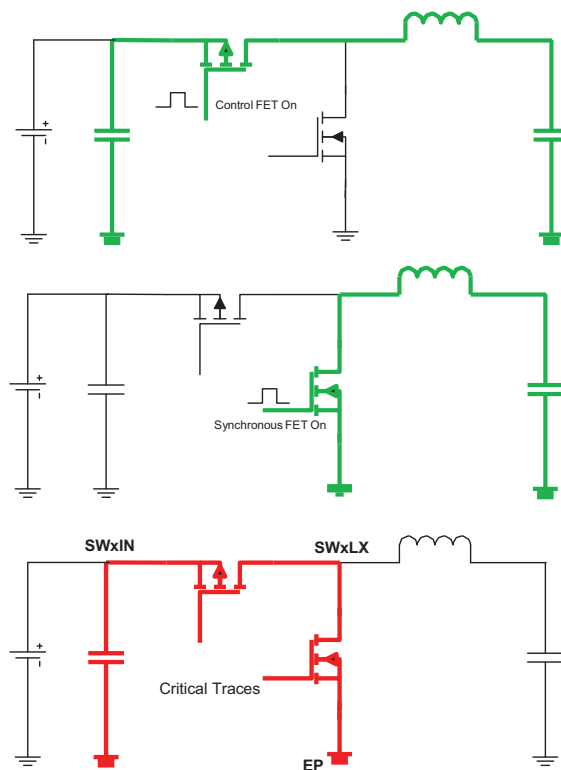
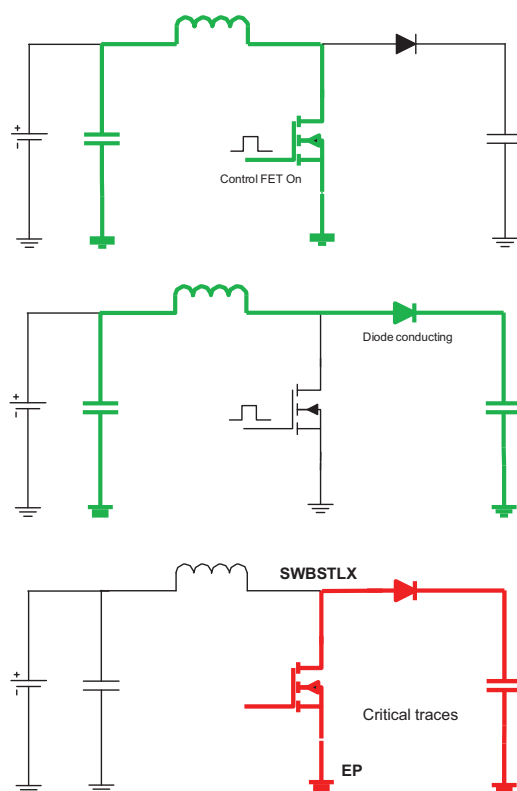

Figure 2. Buck Converter Critical Traces
Figure 6. Boost Converter Critical Traces
- The exposed pad (EP) on the PF3000 is the high-current ground return for all the buck regulators and the boost regulator. Use vias under the EP to drop onto the ground plane(s) directly, ensuring sufficient copper for the ground return.
- If it is necessary to route a power trace to another layer, choose a trace in low di/dt paths (see Figure 2 and Figure 6) and use multiple vias for interconnection. - To minimize noise propagation and connection impedance between layers.
Figure 2 shows current paths in a buck converter in the 'on' and 'off' periods of the switching cycle. Critical traces refer to traces which conduct either only during the 'on', or only during the 'off' periods, as highlighted in red.
Figure 6 shows the critical traces in a boost converter.